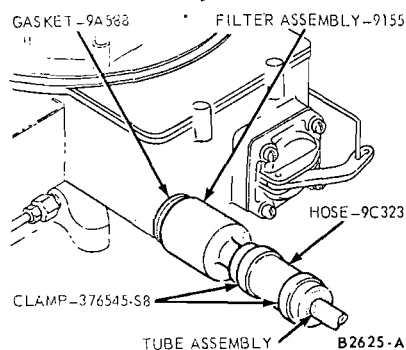

FIG. 3—Typical In-Line Fuel Filter Assembly
A separate in-line fuel filter (Fig. 3) is used on all engines. The filter is of one-piece construction and does not contain a cleanable filter element.
The in-line fuel filter used on all engines (Fig. 3) is of one-piece construction and cannot be cleaned.
2. Loosen the retaining clamp securing the fuel inlet hose to the fuel filter (Fig. 3).